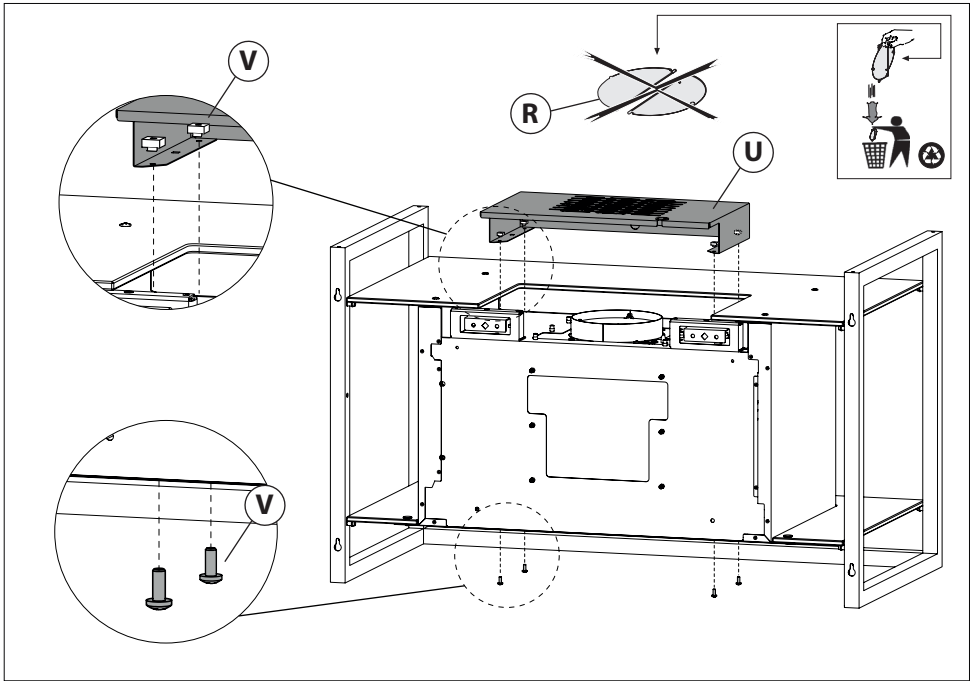

Fig.5
- If the hood is in the extraction version with rear air outlet or in the filtering version with upper air outlet, it is necessary to install the aesthetic cover **U** with the screws and nuts **V** provided (Fig.5).